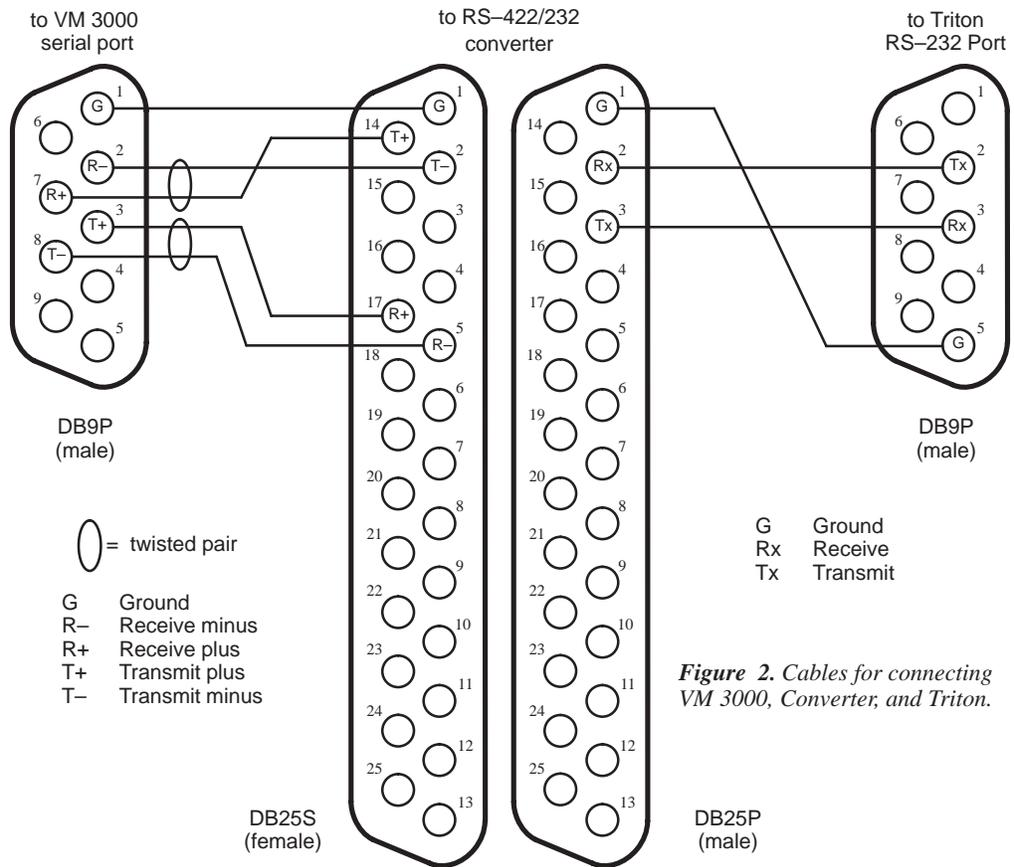

Figure 2. Cables for connecting VM 3000, Converter, and Triton.
6. Connect the 25-pin end of the *VM 3000 to Converter Cable* to the RS-422 side of the B&B converter. (Pinouts for this cable are shown in Figure 2.)